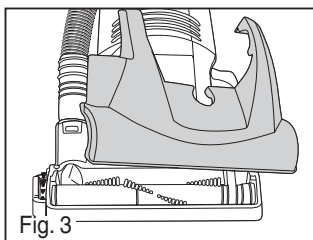

Fig. 3
- 3) Lift off brush roll cover. (Fig. 3).
- 7) Replace brush roll cover (Fig. 3).
- 3) **Hose connector** – twist hose from connector. Remove blockage and replace hose. For better access, unclip sides and clear blockage. Clip back into place and reconnect hose at both ends (Fig 3).